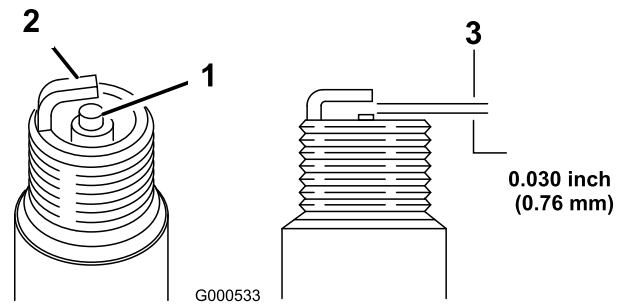

Figure 27
- Set the gap on the plug to 0.030 in. (0.76 mm) (Figure 27).